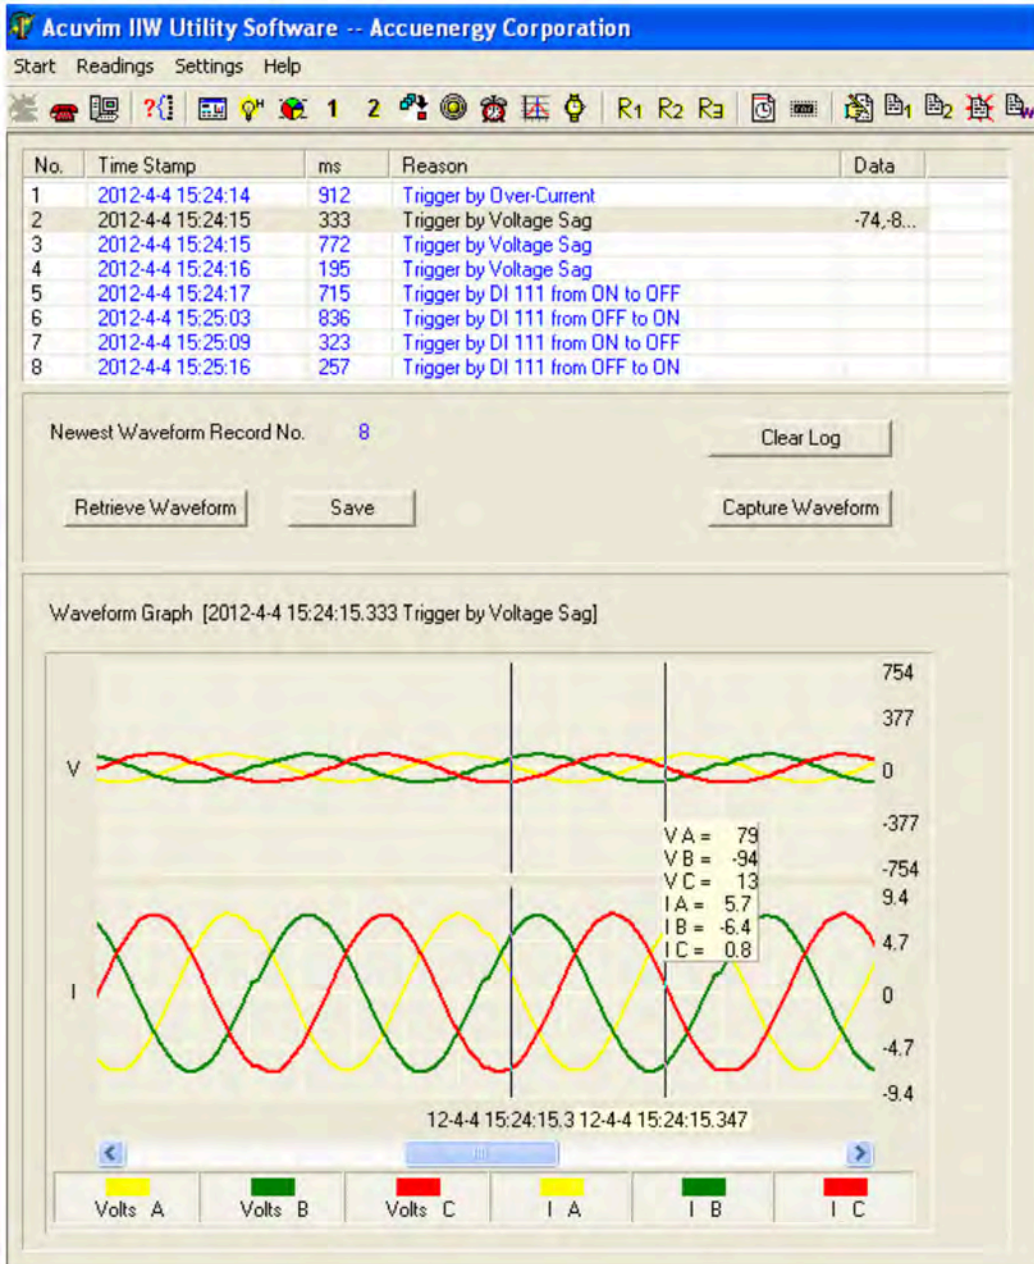

Fig. 4-14
3) 100mV(Rope-CT): $\text{Real Value (Unit: A)} = \text{Waveform Value} / K$ (firmware above 3.21, $K=20291.1;$ firmware 3.20, $K=22068.8,$ other: $K = 15869.87;$); 4) mA CT: $\text{Real Value (Unit: A)} = \text{Waveform Value} / K$ (80mA CT: $K=7414.289;$ 100mA: $K=9267.440;$ 200mA: $K=18514.68$); The voltage and current value obtained from the waveform are the PT or CT secondary side value. The waveform capture retrieve page is shown in Fig 4-14.